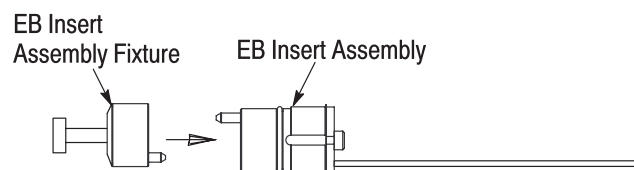

Figure 9
2. Slide the spring onto the end of the ferrule assembly. See Figure 9, Detail A.
3. Align the end of the ferrule assembly with the appropriate channel cavity of the EB insert, and insert the ferrule assembly into the channel cavity until the O-ring is against the channel cavity. See Figure 9, Detail B. To avoid damage to the fiber, **DO NOT** push the fiber to install the ferrule assembly.
4. Using the ferrule insertion tool, push the spring until the ferrule assembly bottoms in the channel cavity (the O-ring will be inside of the cavity, and the spring will protrude slightly from the cavity). See Figure 9, Detail B.
5. Align the index pin hole of the ferrule plate with the index pin at the back of the EB insert, and slip the fiber into the closest slotted hole in the ferrule plate. See Figure 9, Detail C.
6. Hold the ferrule plate against the EB insert, making sure that the index pin enters the index hole. Thread the screw through the screw hole of the ferrule plate and into the hole in the EB insert. See Figure 9, Detail D. Using the 2.5-mm hex wrench, tighten the screw to a torque between 0.8 and 1.0 N-m. Check to make sure that the ferrule plate is flush with the EB insert.
7. Align the guide pins with the guide holes, and fit the EB insert assembly fixture onto the EB insert assembly. Refer to Figure 9, Detail E.